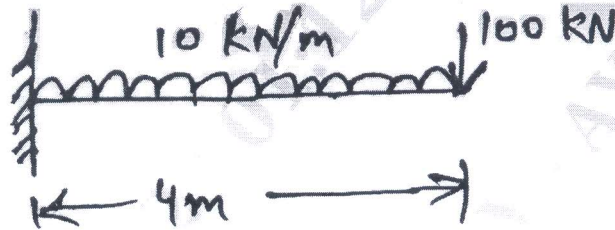

Fig Q9(b)
b. Determine the maximum deflection in the uniform cross-section of cantilever beam shown in Fig Q9(b), by assuming the beam as a single element. $E = 7 \times 10^9 \text{ N/m}^2$; $I = 4 \times 10^{-4} \text{ m}^4$.